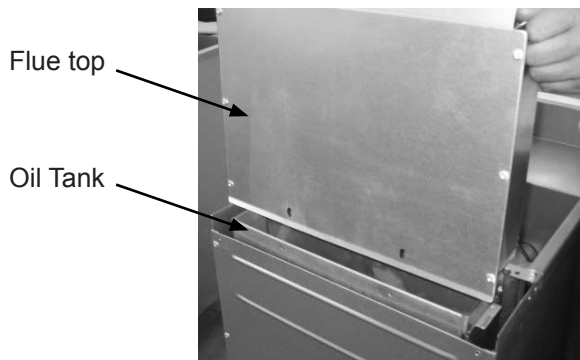

Figure 7-1
1. Position the flue top on the oil tank. See Figure 7-1.